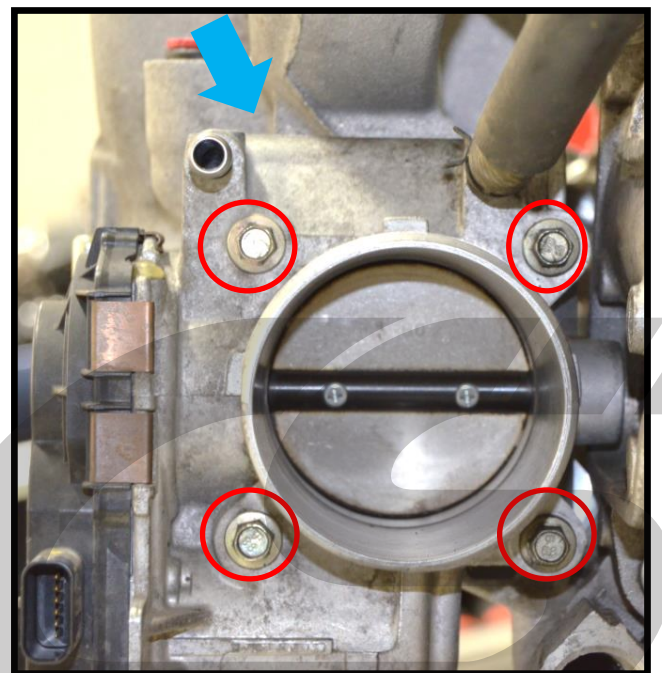

Figure 4b
- d) **Remove the throttle body** using an 8mm socket wrench and extension. The four bolts are shown with **red circles** in **Figure 4b**. Peel the gasket off the intake manifold for further inspection (be careful to not bend the gasket) Gasket tab shown with **blue arrow** in **Figure 4b**.